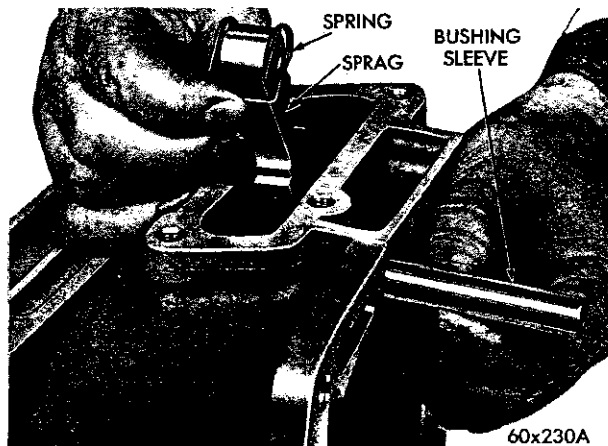

Fig. 42—Removing or Installing Parking Sprag
- (5) Slide the bushing sleeve out of the housing to remove the parking sprag and spring (Fig. 42).
and insert the bushing sleeve (Fig. 42). Make sure the square lug on the sprag is toward the gear and the spring is positioned so as to lift the sprag away from the parking gear.